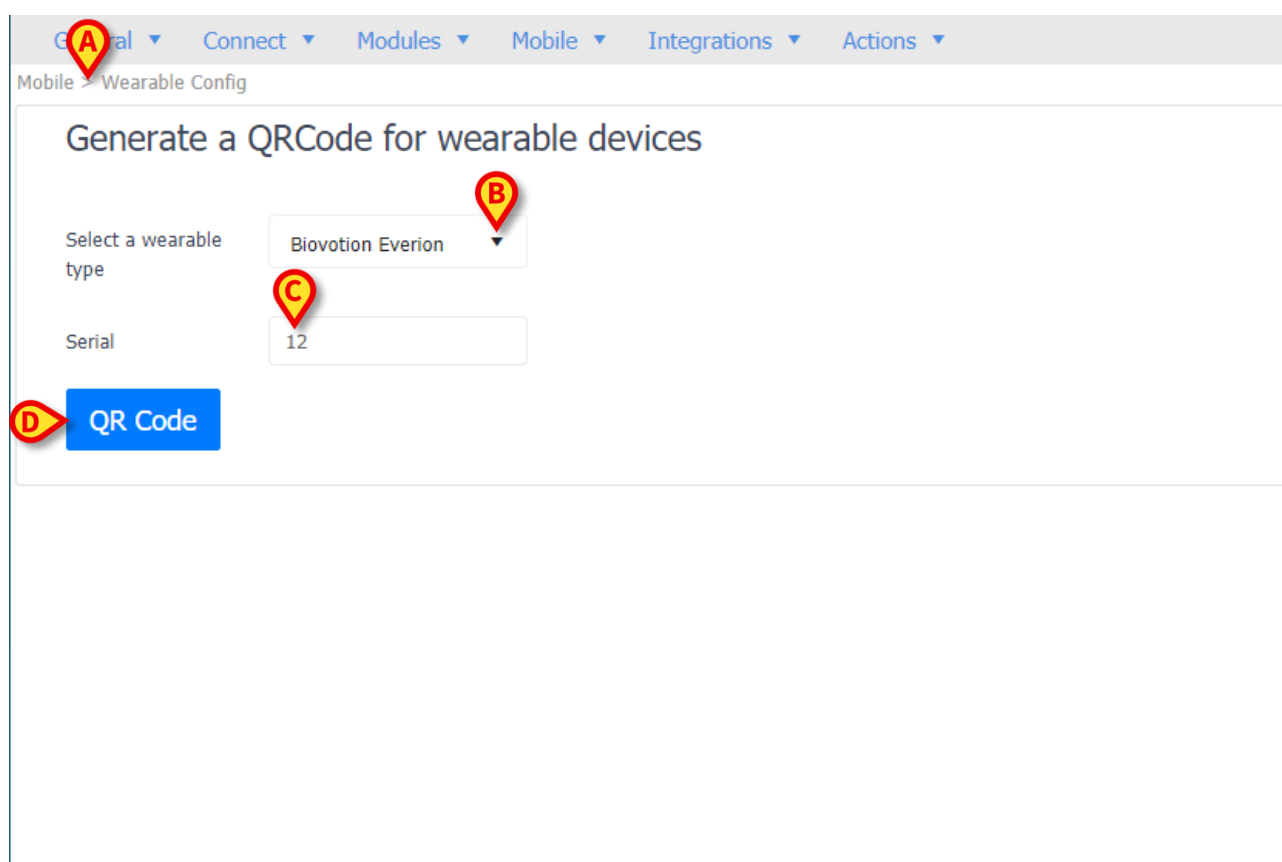
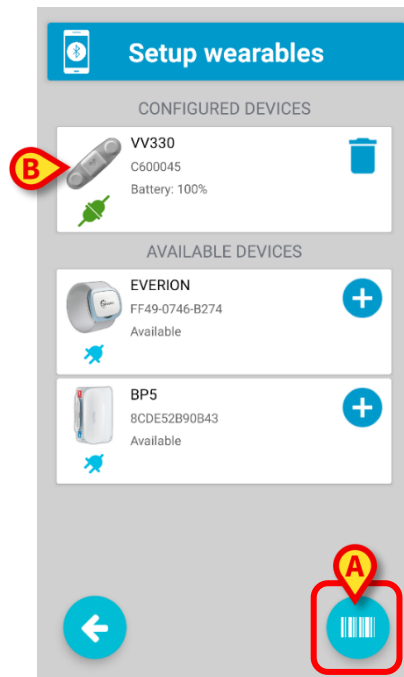

Fig 20
Fig 23
- Access the Configurator Web main page, click on **Mobile** and then on **Wearables Config** (Fig 20 A).
- In the drop-down menu "Select a wearable type" (Fig 20 B) choose the type of wearable to be associated.
- According to the wearable type, the field "Serial" or "MAC Address" or "Wearable version" are displayed. Fill it with the serial number or the MAC Address of the wearable to be associated (Fig 20 C).
- Click on **QR Code** button (Fig 20 D) to generate the code, download and print it (Fig 21).
- Press the **Scan** button (Fig 23 A) to scan the barcode related to the wearable device to be paired (obtained via the procedure described above - Fig 20).
The wearable device will be paired automatically and included in the list of "Configured Devices" (Fig 23 B). User confirmation is required to complete the procedure.
The barcode functionality works slightly differently on Myco3 devices. Myco3 devices are equipped with a physical "Scan" button on the side. Therefore, the "Scan" icon (Fig 23 A) is not displayed on Myco3 devices.